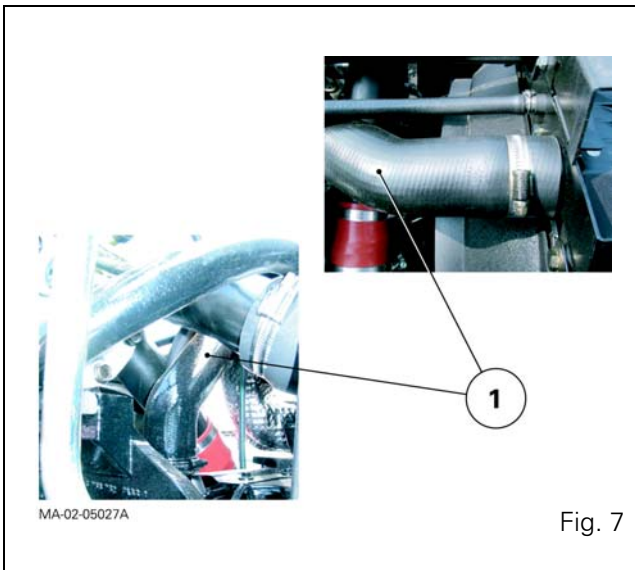

Fig. 7
- 15.** Disconnect the upper radiator hose (1) (Fig. 7).